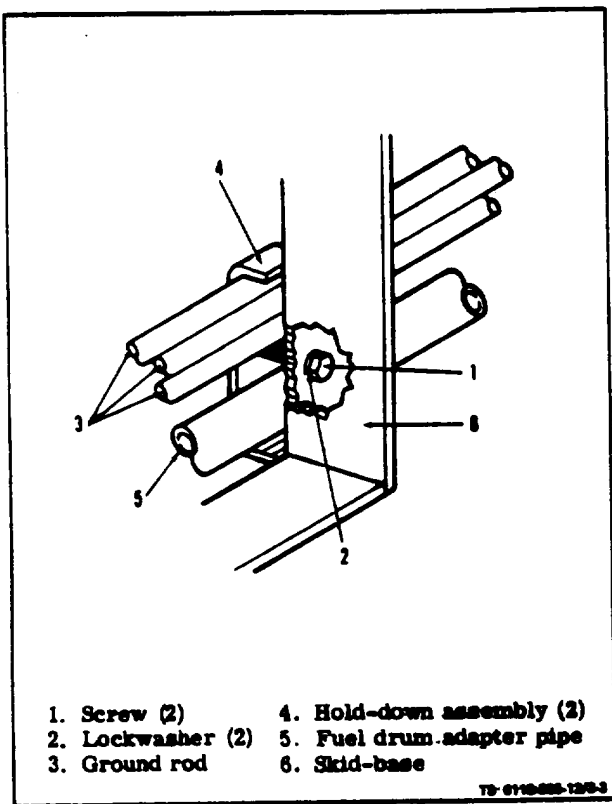

Figure 3-3. Ground Rod and Fuel Drum Adapter Pipe Hold-Down
a. Removal (see figure 3-3). On ASK equipped generators, remove oil access door and fuel filter access door.
(1) Ground Rod and Fuel Drum Adapter Pipe. Loosen screws (1), lockwashers (2). Slide ground rod pieces (3) out of hold-down assembly (4), then slide out fuel drum adapter pipe (5).
(2) Hold-down adapter. Grasp hold-down assembly (4) and remove screw (1) and lockwasher (2). Remove hold-down assembly.